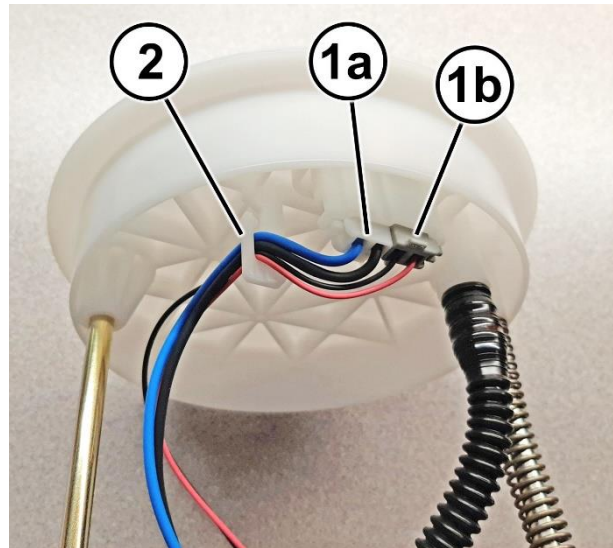

Figure 23 – Electrical Connectors
50. Disconnect electrical connectors for fuel pump (1a) and fuel level sender (1b) then release the wires from the fuel delivery module cover wire retainer hook (2) (Figure 23).
10. Connect the electrical connectors for fuel pump (1a) and fuel level sender (1b) to the fuel delivery module cover then secure the wires with the retainer (2) (Figure 23).